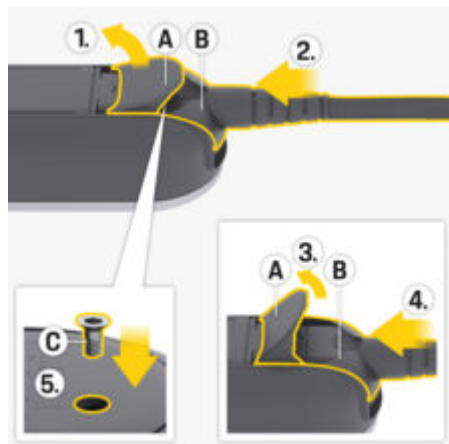

Fig. 32: Securing the supply cable and plug
1. Open cover **A** (Fig. 32) by around 15 degrees (only as far until plug **B** (Fig. 32) fits in the control unit).
2. Insert plug **B** (Fig. 32) into the control unit until you feel initial resistance.
3. Fully open cover **A** (Fig. 32).
4. Push plug **B** (Fig. 32) in fully.
5. Fully close cover **A** (Fig. 32) and fasten using screw **C** (Fig. 32).